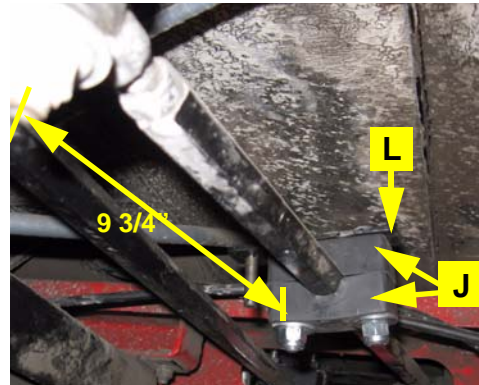

Figure 5c: Steering ram bracket location
- b. Mount the cylinder ram bracket **L** to the left steering arm using the provided plastic clamp **J** with hardware **N**. The front face of the plastic clamp should measure 9 3/4 inches from the center of the steering arm swivel bolt (Figure 5c).